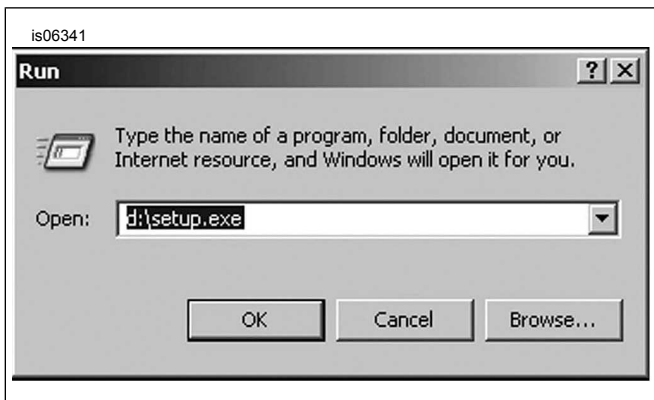

Figure 1. Setup
- See Figure 1. In the box marked **Open:** type D:\setup.exe and press enter or click **OK**. Most PCs have the CD-ROM drive letter "D". Replace this with the appropriate letter if your CD drive is installed differently. If done correctly the ProTune II Setup Wizard will open.